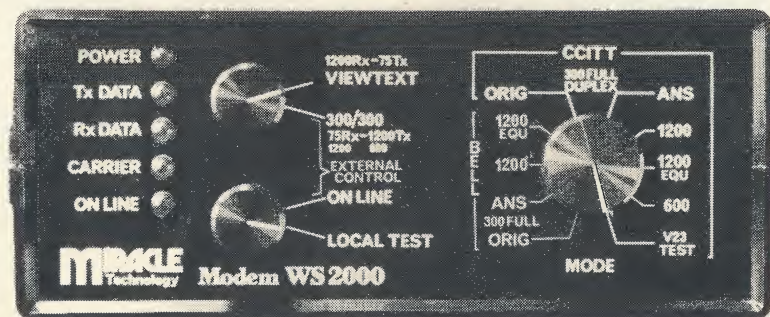

Figure 2 (below)
2.8 If the above test is satisfactory, you can also, if you wish, test your Viewtext settings. Set the modem switches to the positions shown in Figure 2. Set your computer data rates to 75 baud receive, 75 baud transmit. Again, when you press a key with the modem switched on, that key character should be printed on the screen. If not, check all connections and settings carefully, or refer to the Faultfinding section. Note that the Viewtext test settings are different to those used for normal Viewtext communication. **PLEASE REFER TO THE IMPORTANT NOTE ON PAGE 16 REGARDING THE USE OF THE V23 TEST SETTING.**